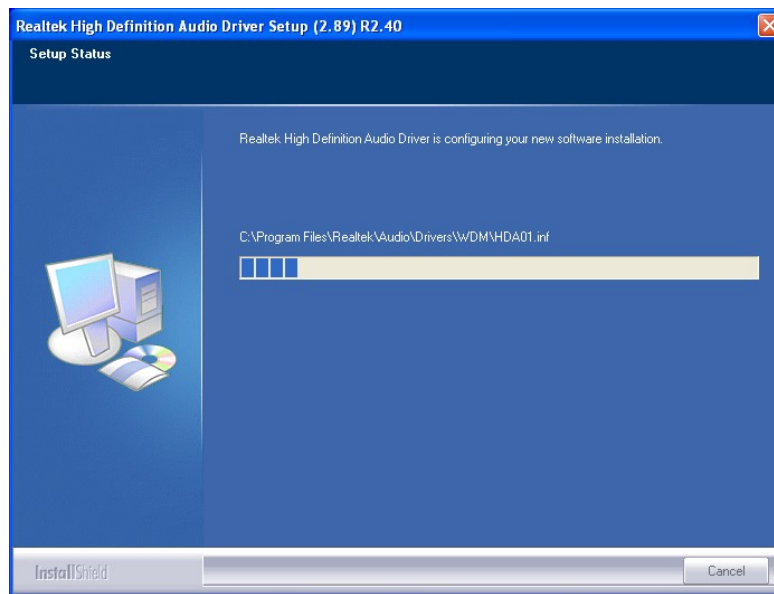

Figure 5-20: Audio Driver Installation
Step 6: The audio driver installation begins. See **Figure 5-20**.